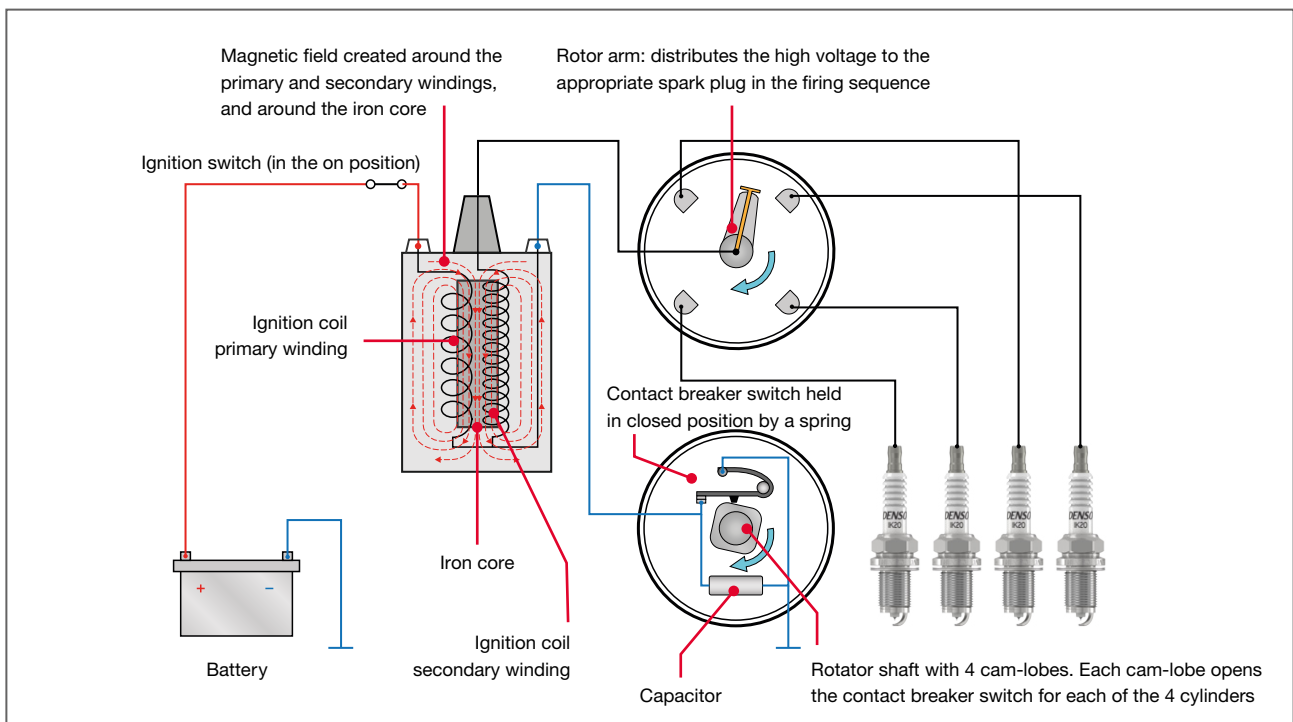

Fig 4.2 Basic mechanical ignition system operation. Phase-1 dwell period creating the magnetic field
Fig 4.2 shows the first phase of operation for the mechanically operated system.
**For convenience, Fig 4.2 shows the ignition coil secondary winding located adjacent to the primary winding, but in fact, coils the primary and secondary windings are both wrapped around the iron core.**